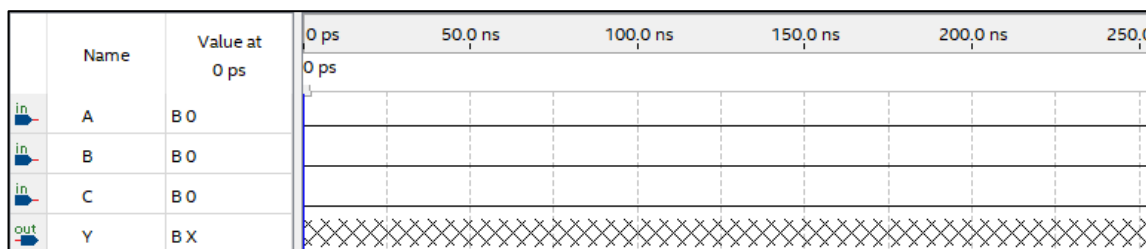

Figure 8: Vwf window with 25 ns grid size
- Use the magnifying glass to zoom in on the waveform window until you can see 50 ns intervals as seen in the image of Figure 8.
- Using your mouse (make sure the pointer is selected), click and drag your mouse cursor across 500 ns to 200 ns on input A to select the area. Now select the “1” button on the toolbar (or select “Edit”, “Value”, “Forcing High (1)”) to set this signal to High during this time window.